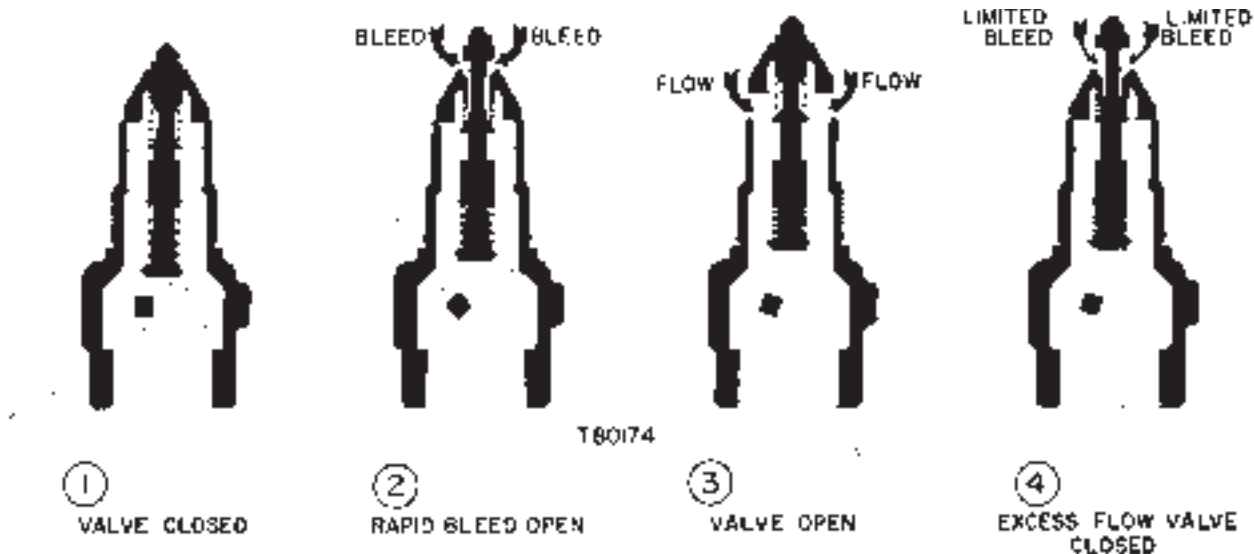

Figure 3. Operational Schematic
3. Move the lever to the half-open position (figure 3, view #2) to equalize pressure. When the main poppet clicks open, move the operating lever fully open.
Refer to the schematic drawing, figure 3. In view #1, the valve is held closed by both tank pressure and the valve’s closing spring. There is no leakage past the resilient seats in the poppet to the valve outlet.